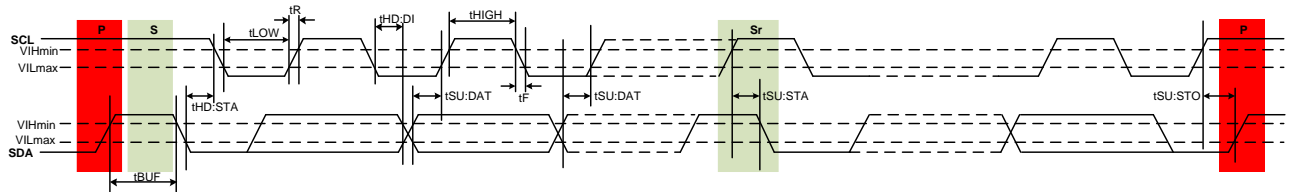

Figure 18. I²C or I³C Basic Bus AC Input Timing Parameter Definition
2. See Figure 18 for input timing parameter definition.
10. The SPD5 Hub device must be in configured in I3C Basic mode to guarantee t_{DOUT} value. See Figure 18. I2C or I3C Basic Bus AC Input Timing Parameter Definition
The SPD5 Hub device follows the I²C or I³C Basic bus timing requirements. The Figure 18. I²C or I³C Basic Bus AC Input Timing Parameter Definition